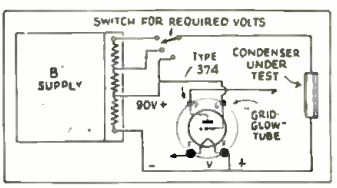

Fig. 8. Condenser "worth" tester.
**LOW-TUBE CONDENSER TESTER.** The unit, the circuit of which is shown in Fig. 8, is made up from a "B" voltage supply and a type 374 "gas filled voltage regulator," or glow tube. A shorted condenser will cause the glow to go out, while a leaky condenser will cause flashes. If a current of more than 45 ma. is drawn at the 90 V. tap, the tube will "go out." The "B" supply may be an ordinary "B" eliminator.